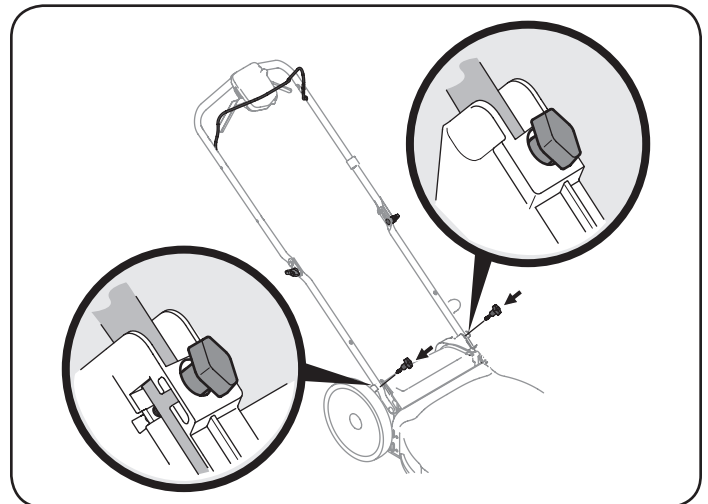

Figure 4
4. Insert the T-bolts removed in Step 1 through the handle brackets and lower handle and tighten securely to secure the handle in place. See Figure 4.